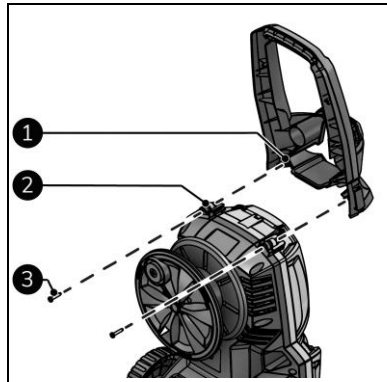

Figure 7
1. Attach the handle (Figure 7, pos. 1) to the main body (Figure 7, pos. 2) with both ST4.8x24 screws (Figure 7, pos. 3).